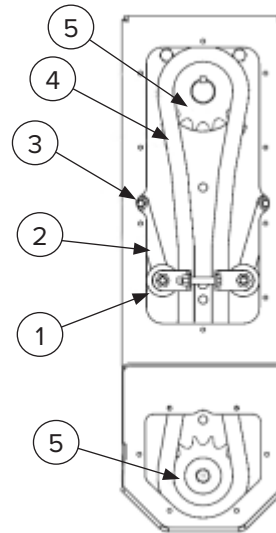

Figure 18
2. Remove the upper access cover (Item 1) [Figure 18] to perform inspection. Use inspection chart below.
3. Tighten nut (Item 3) [Figure 18] until snug, back off 1/2 - 3/4 of a turn. The tensioner arms (Item 2) [Figure 18] should swing freely.
✓	Inspect for worn tensioner rollers (Item 1) [Figure 18].
✓	Inspect the chain (Item 4) and sprockets (Item 5) [Figure 18] for excessive wear.